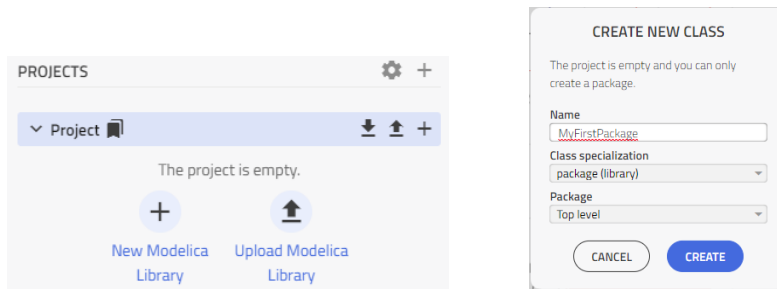

Figure 10 Creating a model
5. Give the new model the name **MyFirstModel** and press **Create**. By convention class names should start with an upper-case letter as shown in **Figure 10**. Note that the default package is selected to be **Workspace**.